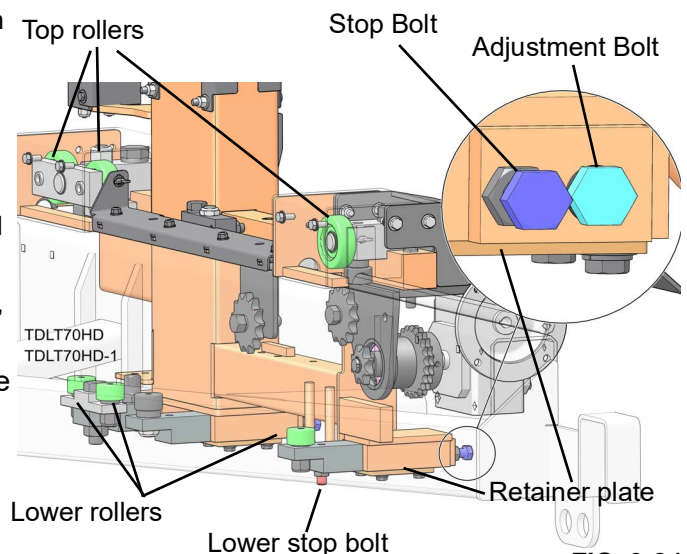

FIG. 9-21
3. Loosen the four retaining plate bolts. See FIG. 9-21.
1. Remove the cover plates to observe the middle upper and lower track rollers as you move the saw carriage down the track. See FIG. 9-21. .
9. After the lower track rollers are adjusted properly, adjust lower stop screws. See FIG. 9-21.